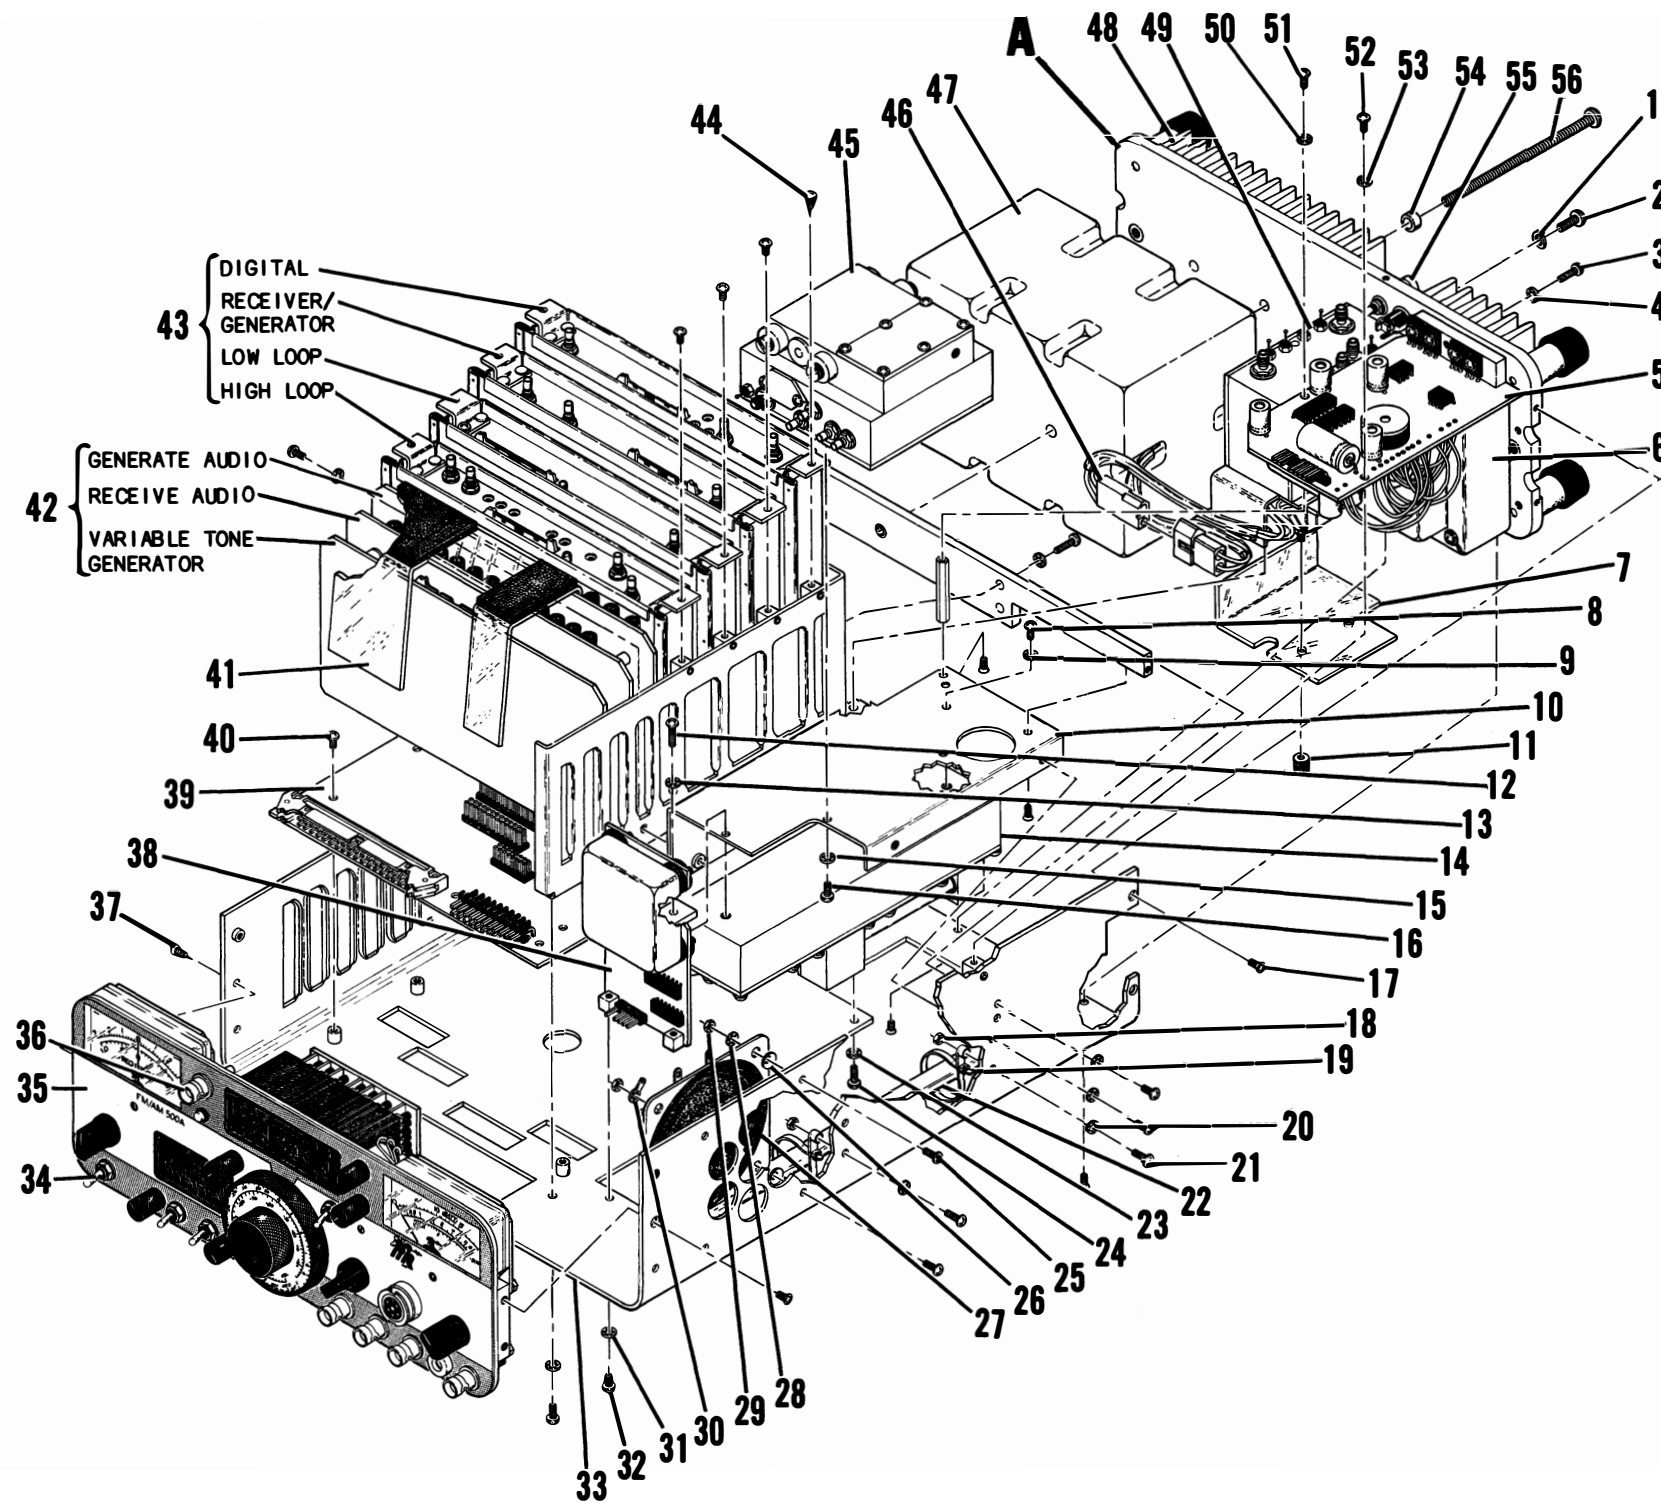

Figure 6-2 FM/AM-500A Composite Assembly
This section contains instructions that are necessary to remove and disassemble modules within the FM/AM-500A. Case removal (para. 6-2-1) is a prerequisite for all module removals. Most module removals are reflected in Figure 6-2, Composite Disassembly. However, due to the complexity of the composite, further details of module disassembly are shown on individual disassembly drawings for specific modules.
A. Removal (Figure 6-2)
A. Removal (Figure 6-2, Detail A)
1. Disconnect Wire Harness Connector and coax connector from oven oscillator (62).
2. On test sets which have the oscillator (62) mounted on a bracket (61), remove two screws (57) and lock washers (58), withdraw the oscillator and bracket from the compartment, then remove four screws (59) and lock washers (60).
3. On test sets which have the oscillator (62) mounted directly on the chassis (33), remove four screws (59) and lock washers (60), then remove the oscillator.
1. Remove two screws (32) and lock washers (31) attaching PC board assembly (38) to bottom of chassis (33).
2. Remove screw (12) and lock washer (13) attaching PC board assembly (38) to inner mounting bracket (10).
3. Withdraw PC board assembly (38) from chassis (33) and disengage wire harness plug from PC board.
4. Three flexible coax cables are permanently attached to the Frequency Standard (38). Disconnect these from High Loop Synthesizer and Digital Modules (43), and the External Standard jack (55).
1. Remove screw (3) and lock washer (4) attaching PC board assembly (5) to Rear Panel (48).
2. Remove two screws (51 and 52) and lock washers (50 and 53) attaching PC board assembly (5) to chassis (33).
3. Disengage wire harness connector from PC board (5).
1. Remove Dual VCO (14) (paragraph 6-2-13).
2. Remove screw (21), lock washer (20) and nut (18) attaching wire tie(s) (19) mounting Filter (22) to chassis (33).
3. Disconnect flexible coax cables from each end of Filter (22) and withdraw filter from chassis (33).
2. Remove 1120 MHz Low Pass Filter (22) (paragraph 6-2-6).
3. Tag and unsolder wires from two terminals on Speaker (27).
4. Remove four nuts (29), three lock washers (28), one terminal lug (30), four compression washers (26) and four screws (25) attaching Speaker (27) to chassis (33). Lift Speaker from chassis.
6-2-8 MOTHER BOARD (39) (Figure 6-2)
1. Remove Audio PC boards (42) (paragraph 6-2-9).
2. Remove Enclosed Modules (43) (paragraph 6-2-10).
3. Remove Front Panel (35) (paragraph 6-2-15).
4. Tag and unsolder wires in wire harness (not ribbon cables) from Mother Board (39).
5. Remove four screws (40) attaching Mother Board (39) to chassis (33).
1. Disconnect ribbon cable connector from Variable Tone Generator PC Board (42).
2. Lift PC Board Retainer (41) from over the PC boards.
3. Pull straight up on PC board (42) to disengage connector from Mother Board (39) and lift from chassis (33).
1. Remove Battery (47) (paragraph 6-2-2), if installed.
2. Disconnect four semi-rigid coax connectors from Output Amplifier (49).